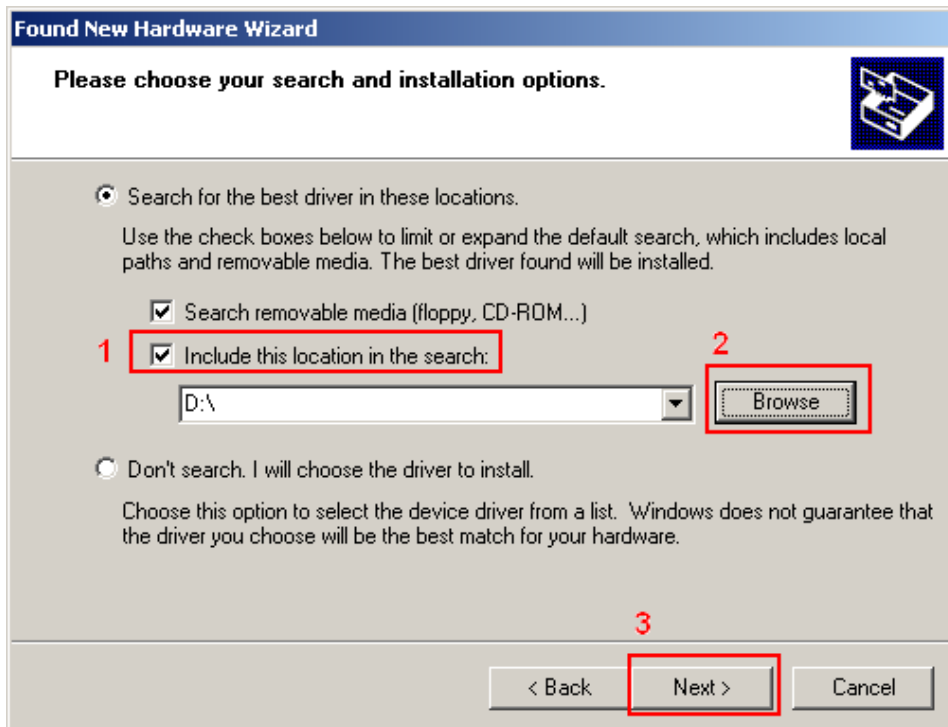

Fig. 1.3.3 Driver installation
3. In the next window select „Include this location in the search.“ and click „Browse“ and navigate to folder where configuration software is saved (i.e. *F:\FM3 configurator 00.01.15*) then click next(Fig. 1.3.3).